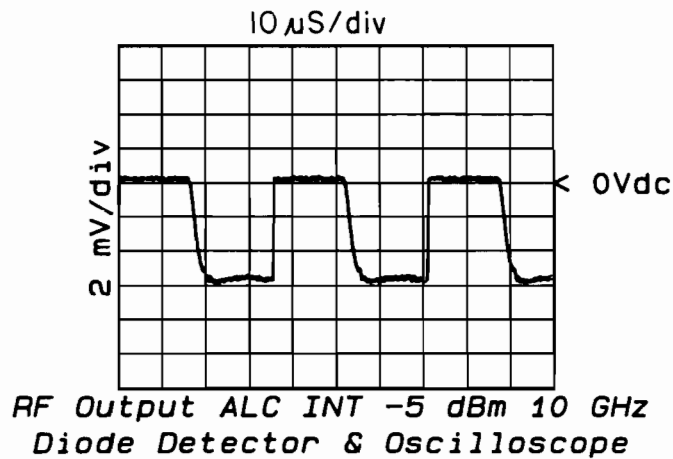

Figure 5-43. Optimum Squarewave
4. Press [CW] [1] [.] [5] [GHz]. Alternately adjust A4C23 (SYM 1) and A4R99 (SYM 2) for the waveform shown in Figure 5-43.
5. Press [CW] [5] [GHz]. Check that the squarewave resembles that shown in Figure 5-43. If not, adjust A4C23 and A4R99 for best squarewave while alternately checking the squarewave at 1.5 GHz.